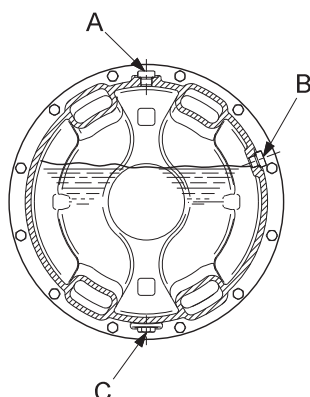

Fig. 7 Pump with inspection screw A upwards
1. Identify the screws A, B and C and their positions relative to each other. See fig. 7.